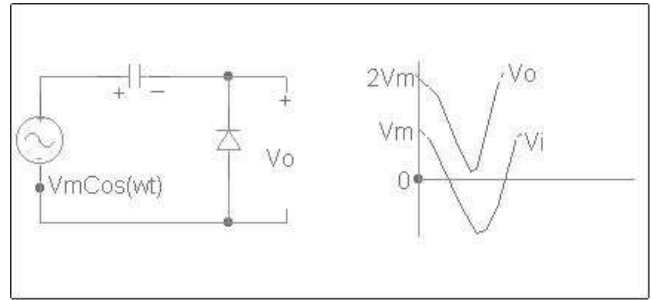

FIGURE 2.17 Voltage clamping with diode.
**B. For Voltage Clamping.** Figure 2.17 shows a voltage clamper. The negative pulse of the input voltage charges the capacitor to its max. value in the direction shown. After